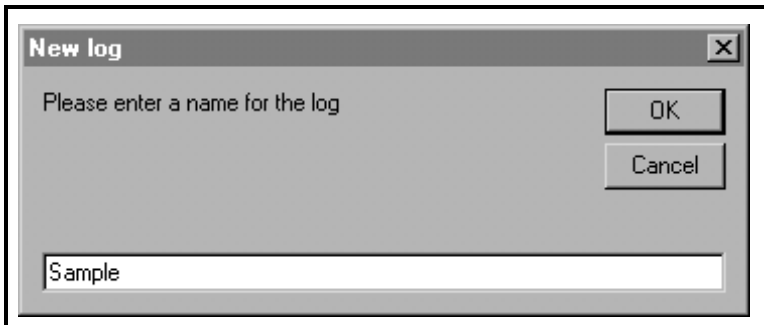

Figure 6-18: Log Name Dialog Box
- f. Enter a name for the log file in the dialog box shown in Figure 6-18 below ("*Sample*" was entered for this discussion). Click on the [OK] option button.